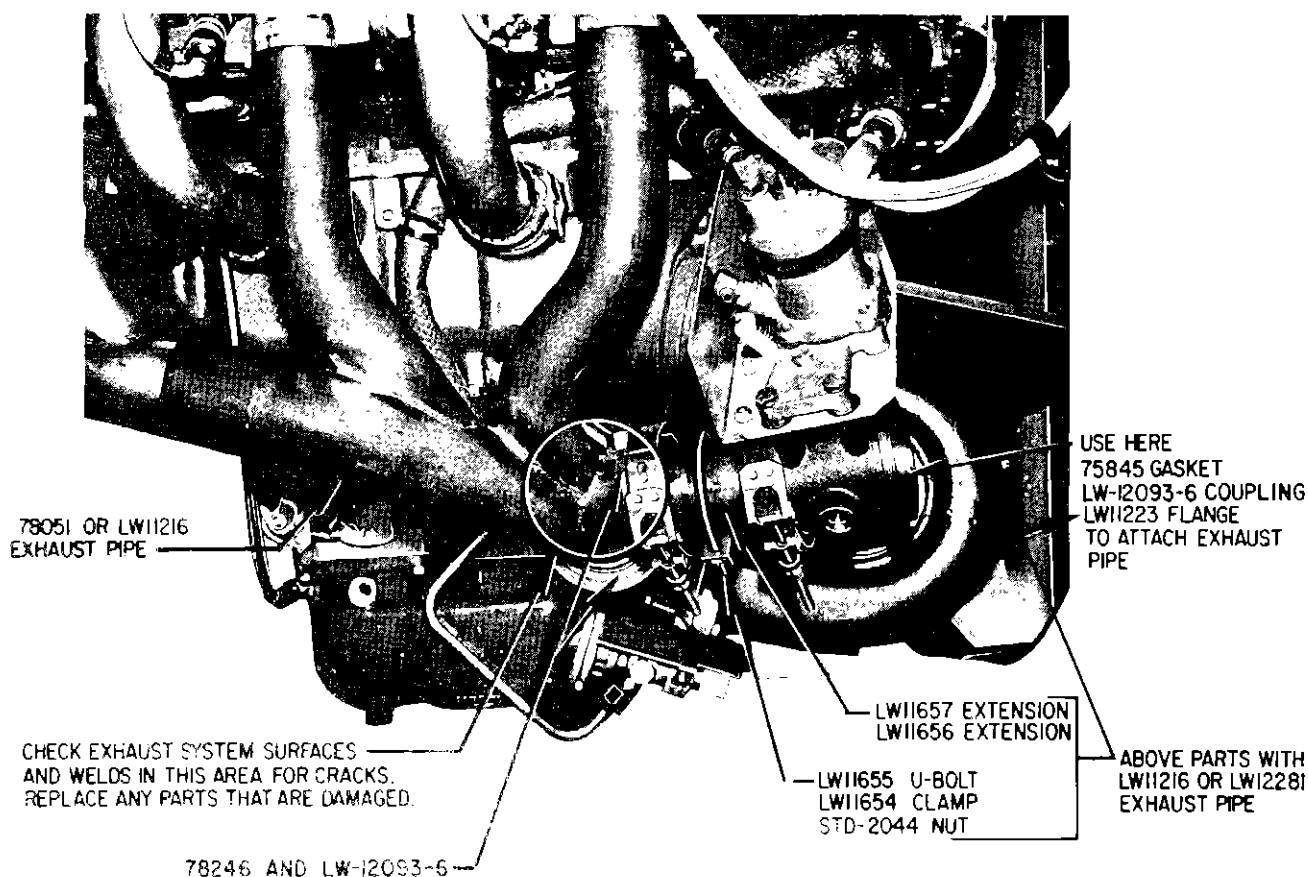

Figure 1. Left Side of Engine Showing Area for Inspection
3. With the aid of a flashlight and mirror, visually examine the exhaust system on the left side of the engine; pay particular attention to the surfaces and weldments of the pipe leading to the exhaust bypass valve. Replace any part of the exhaust assembly that shows any evidence of cracks. See figure 1; also see Parts Data list for replacement parts information.
Avco Lycoming P/N 75845, V-band coupling gasket, and V-band coupling, P/N LW-12093-6, are shipped in the following manner: (1) each are attached at the location shown in figure 1 and (1) each are shipped loose to be attached during engine installation.
NOTE: Revision "A" changes figure 1 by revising part numbers, adding location of 78246 and LW-12093-6 gaskets and v-band couplings, and adds shipping note.